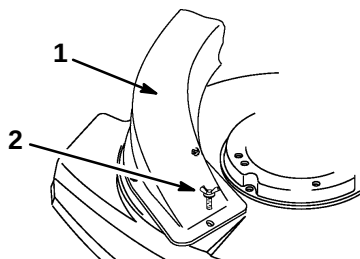

Figure 38
7. Secure the chute assembly with the wing screw (Fig. 38).